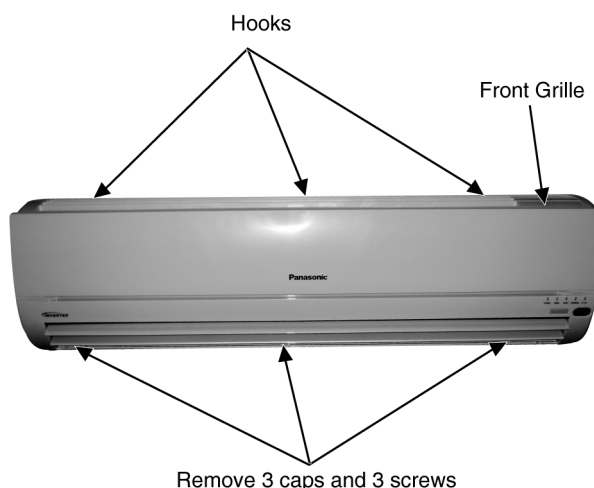

Fig. 1
- Lift to open the vertical vent gently. Remove the 3 caps and 3 screws at the bottom of discharge vent. (Fig. 1)
- Remove the Front Grille by releasing the 3 hooks at the top of the Front Grille. Hold both sides of the Front Grille and remove it by pulling up and towards you gently. (Fig. 1)